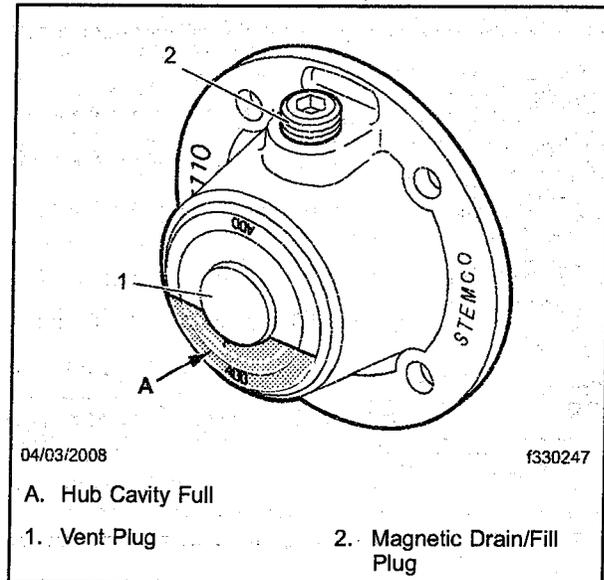

Fig. 12, Stemco Hub Cap
12.3 Add enough oil (about 2 oz or 60 mL) to the hub to bring the level up to the bottom of the vent cap. See Fig. 12.
12.5 Once the oil level has stabilized in the hub cap, check the level in the window and, if needed, add enough oil to bring the level up to the bottom of the vent plug. See Fig. 12.